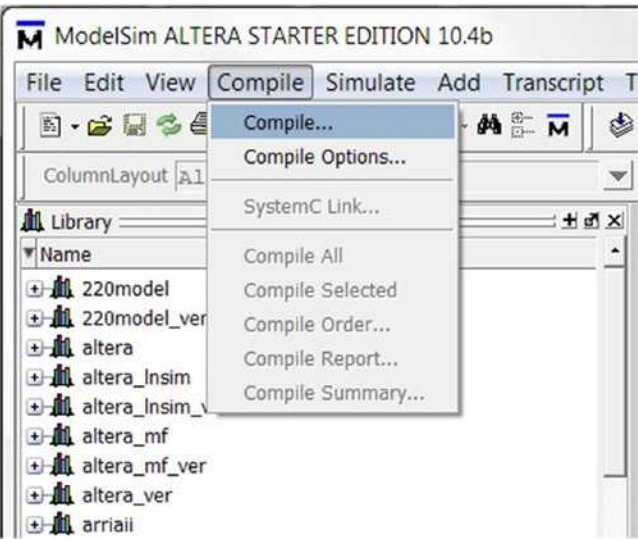
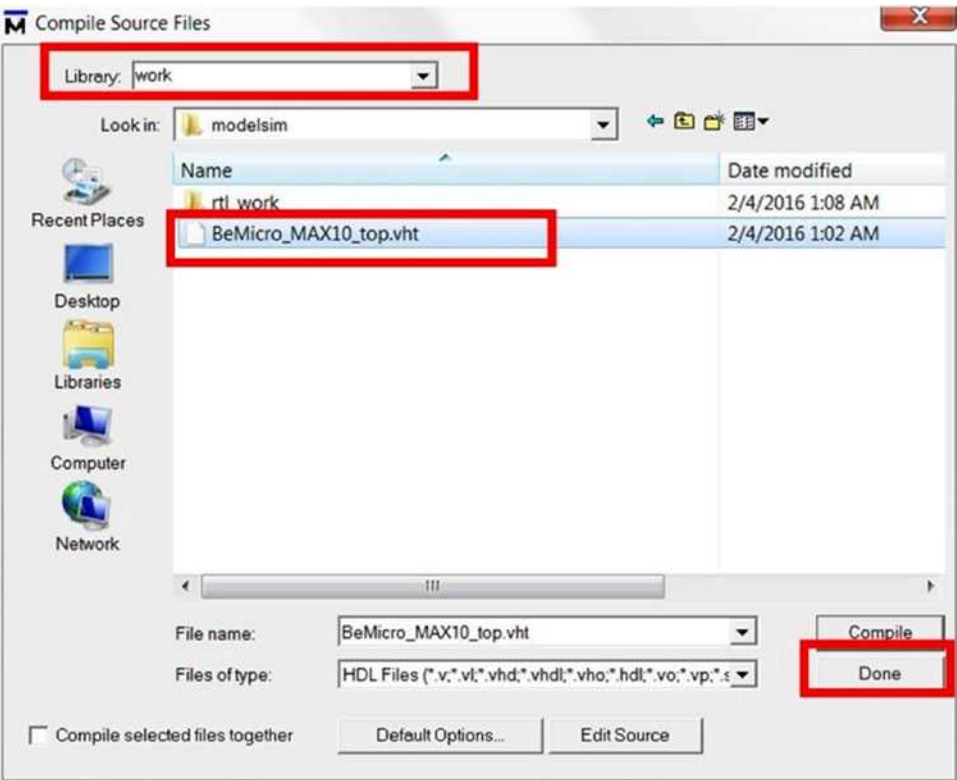

Figure 4-37. Compile test bench from the GUI
Figure 4-38. Compile test bench from the GUI
5. You can compile your test bench using the graphical user interface (GUI) too. Click **Compile ► Compile...** from the menu (Figure 4-37). It will open the Compile Source Files dialog. Make sure your settings are the same as shown in Figure 4-38, Select `BeMicro_MAX10_top.vht` and then click the **Compile** icon. Step 4 and step 5 both compile the test bench file `BeMicro_MAX10_top.vht` into the **work** library. Click **Done** to leave the dialog.